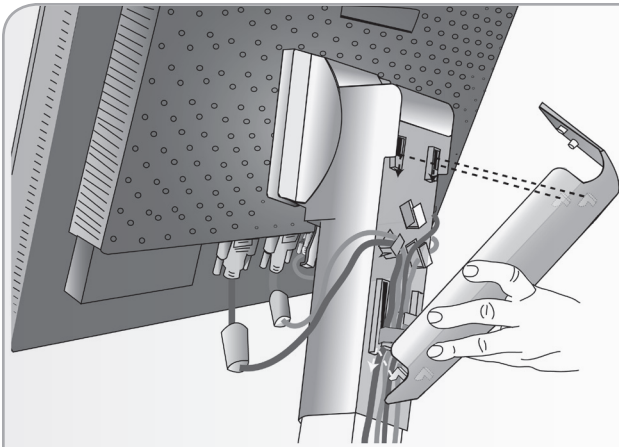

Fig. 08
7. Hold all cables firmly and place the cable cover onto the stand. To remove the cable cover, lift the cover off as shown in Fig. 08.